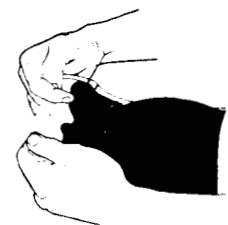

Figure 8
3. Alternately squeeze ends of "Unipak" forcing compound rapidly back and forth, strip compound from corners of "Unipak" container between fingers. Mix until color is completely uniform — 30 to 40 VIGOROUS SQUEEZES. **DO NOT EXCEED 1 MINUTE.** (Figure 8)